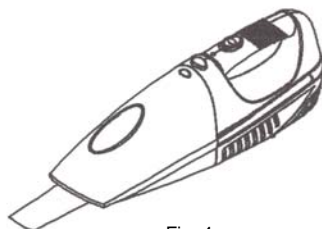

Fig. 4
3. To attach the crevice tool to the hand vacuum, push the attachment into the suction hole in the front of the dust container. (Fig. 4)